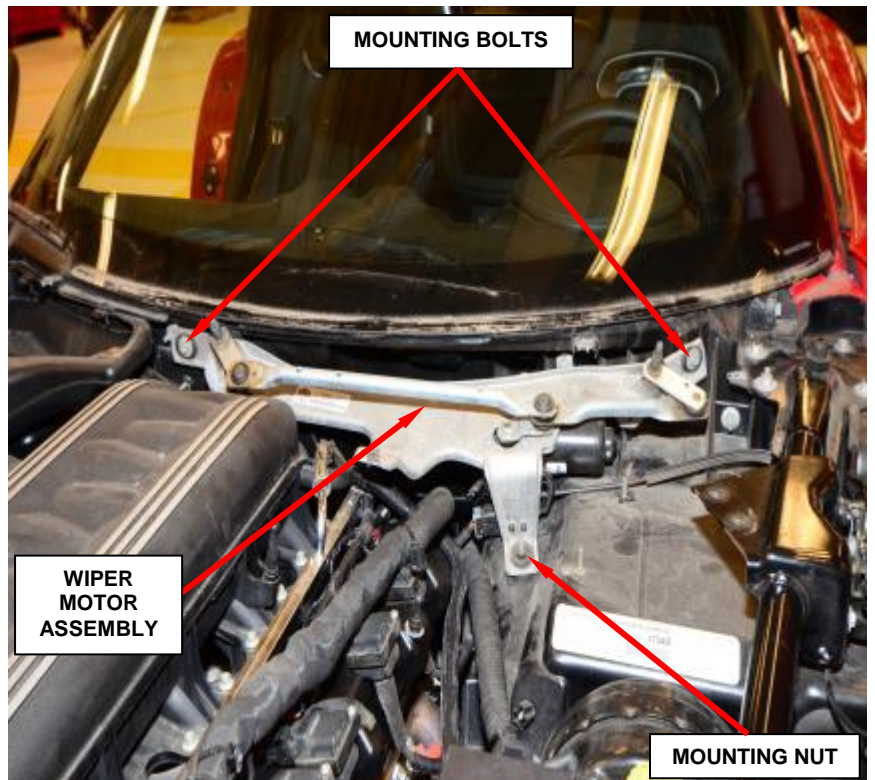

Figure 30 – Wiper Motor Assembly
36. Remove the two wiper motor assembly mounting bolts and one mounting nut then remove the wiper motor assembly (Figure 30).